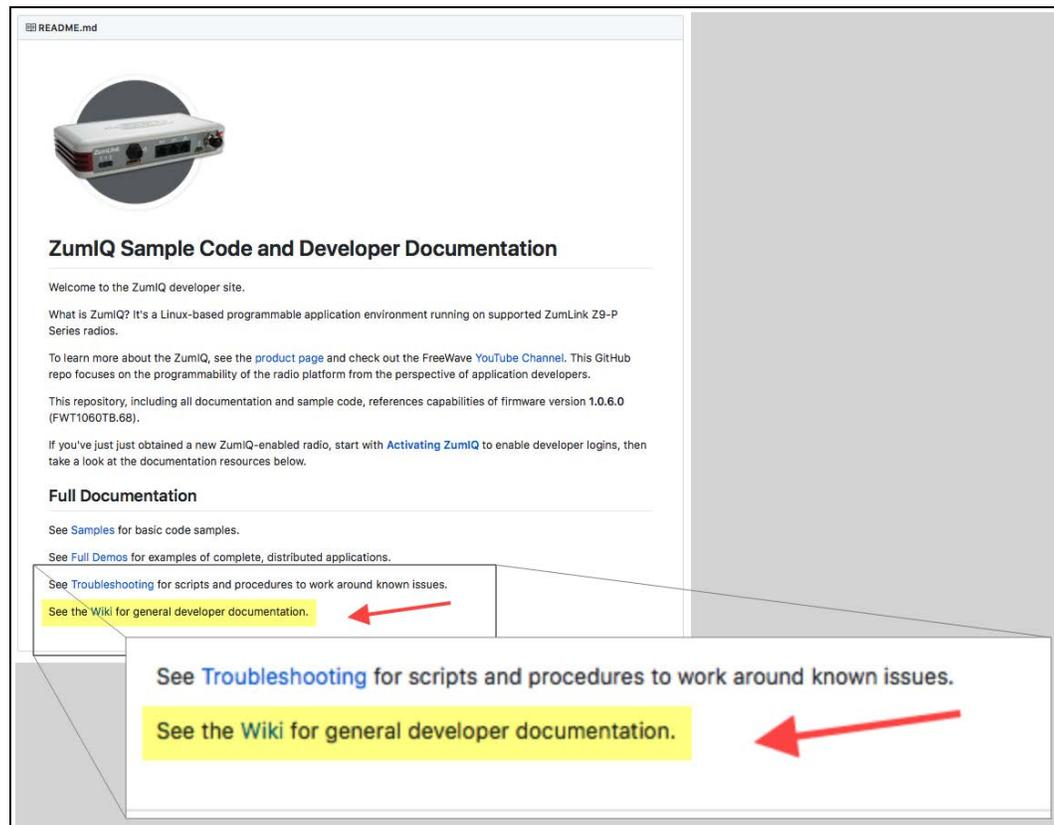

Figure 125: Wiki link on the FreeWave GitHub ZumiQ Main Page
5. Scroll to the bottom of the **Main** page and click the Wiki link for IQ app development information. Figure 125